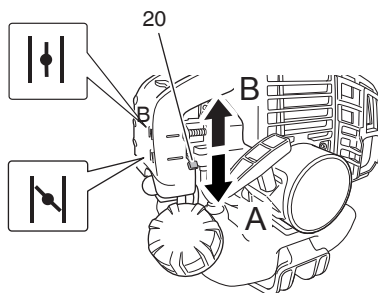

Fig. 15
2. Set choke lever (20) to START position (closed) (A). (Fig. 15)